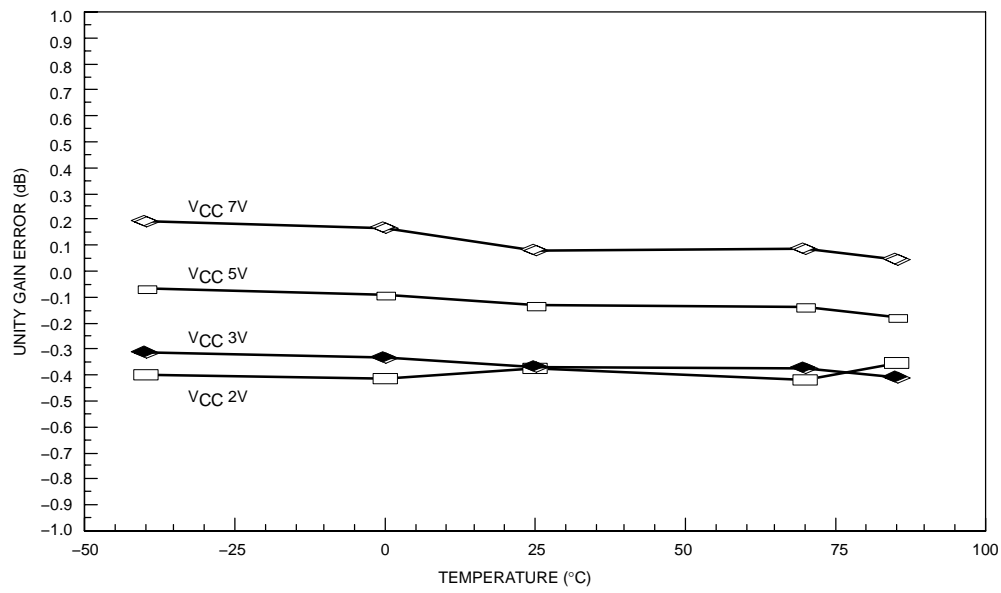

Figure 6. Unity Gain Error vs. Temperature and  $V_{CC}$
1. Operation down to  $V_{CC} = 2.0\text{ V}$  is possible, but performance is reduced. See curves in Figures 6 and 7.